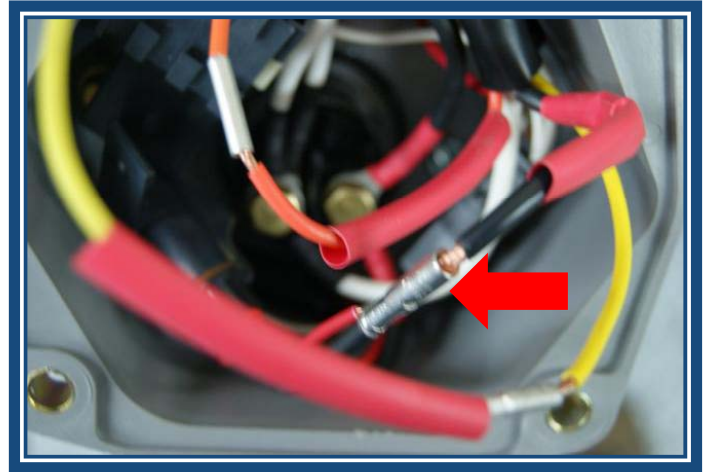

Figure 19
**Step 19:** Connect the black wire (7) from the main harness to the fuse assembly (K) that is already connected to the dual pole positive (L). Strip the end of the black wire (7) approximately  $\frac{1}{4}$ ". Slide a piece of the  $\frac{1}{4}$ " red heat shrink over the wire. Insert the stripped wire into the butt connector of the fuse assembly (K), crimp and solder. Place heat shrink over connection and apply heat. (See Figure 19)